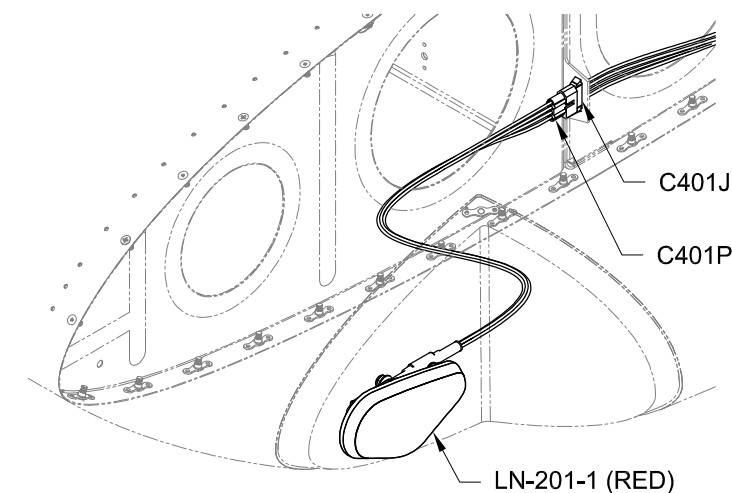

FIGURE 2: CONNECT C401P & C401J
Step 7: Connect C401P and C401J as shown in Figure 2.